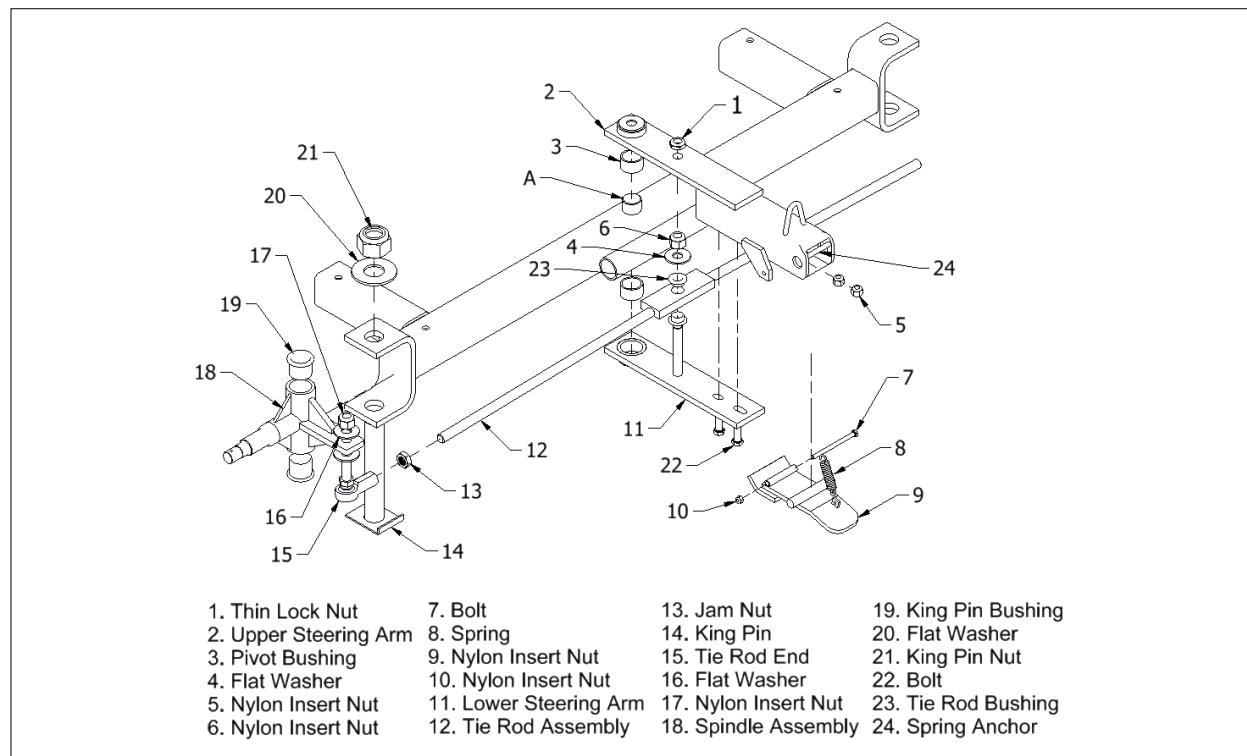

Figure 4-5 Exploded View of Undercarriage
(The remaining steps are illustrated in Figure 4-5) .
To remove the spindle assembly, follow the maintenance steps for the front hub assembly before beginning the next steps. See Figure 4-5.
- a. Remove the thin lock nut (1).
- b. Remove nuts (17) and flat washers (16).
- c. Remove bolts (22) and nuts (5). Allow lower steering arm subassembly (11), bushing (3), and tie rod assembly 12) to drop down; place to the side.
- d. Lift upper steering arm subassembly vertically to clear pivot pin (reference arrow (A), then pull to clear tank and front axle tube.
- e. Remove tie rod assembly (12) by removing nut (6) and flat washer (4). Note the presence of the bushings (23).
Refer to Figure 4-5 for the removal of the tie rod. Before beginning this process make sure that you have followed the steps for the steering arm assembly. **Note presence and location of bushings (23) when removing tie rod assembly from steering arm assembly.**